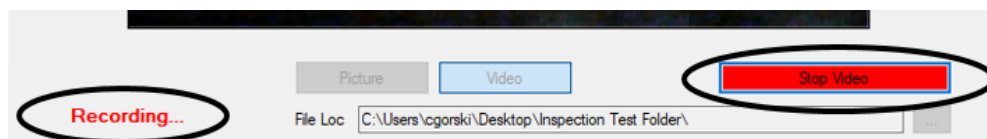

Figure 10
3. When the video is recording, 'Recording' in red text will appear toward the bottom of the software window. **Fig. 10**
4. To stop recording, use any method as described in step 2 above for starting the video. **NOTE:** The 'Image Capture' button will now read 'Stop Video' while recording. **Fig. 10**